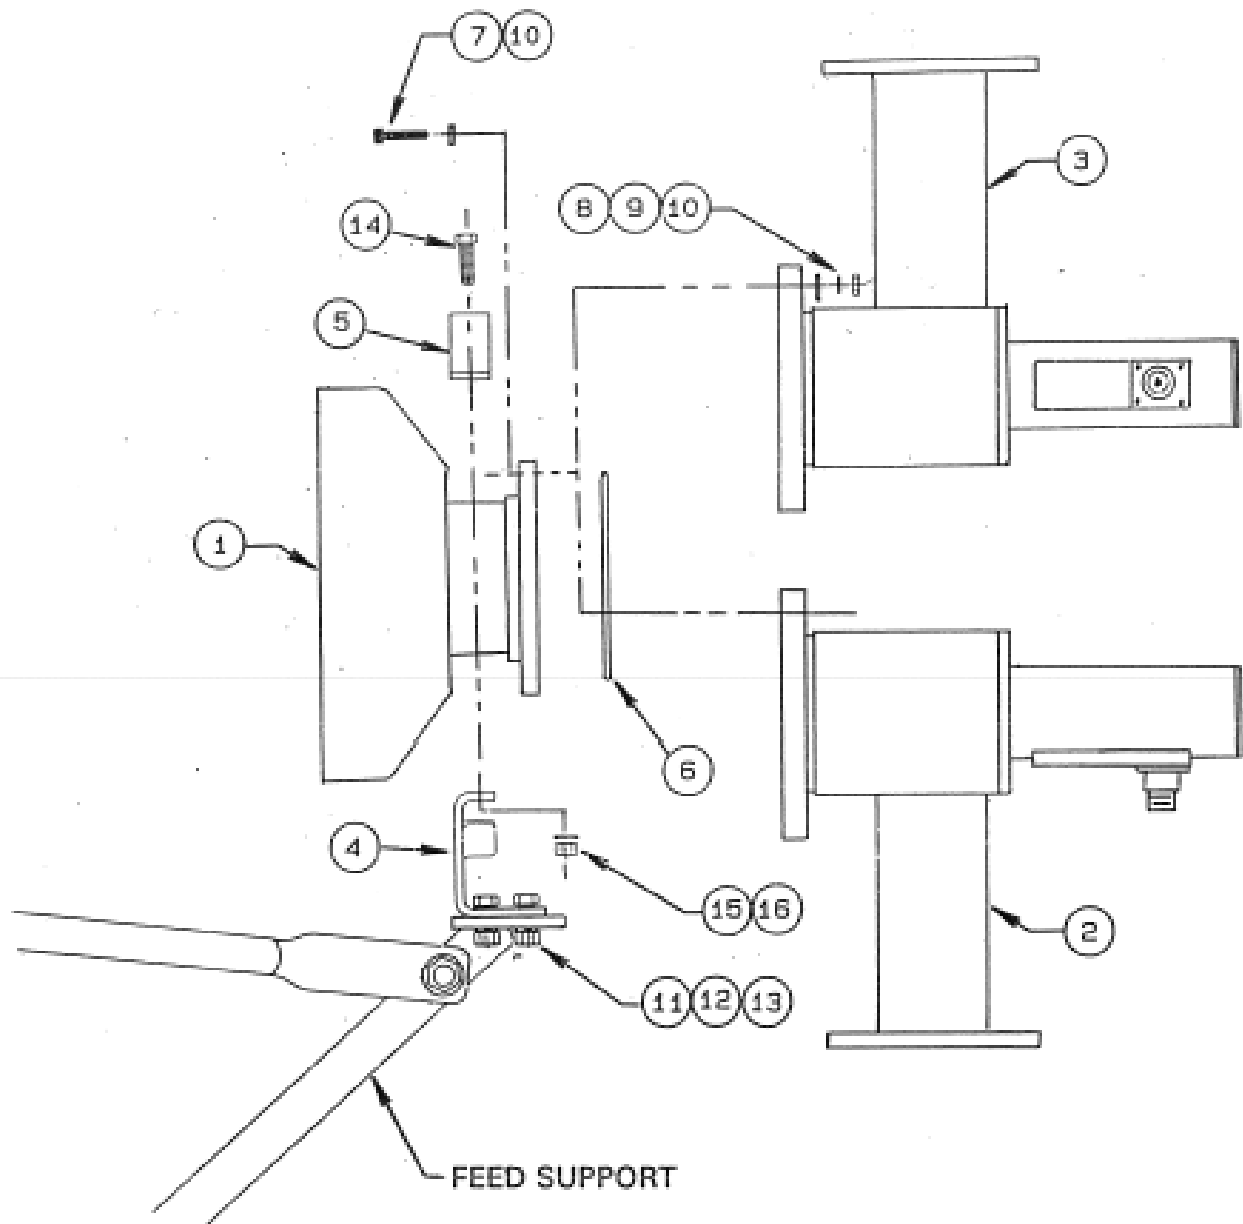

FIGURE 2.1-A
Step 1: Apply silicone grease to [2] o-rings (item# 7) and place [1] in the o-ring groove in the circular polarizer (item# 3). Attach the feed horn (item# 1) to the circular polarizer (end with o-ring) with [8] #10-24 x 1.25" screws, [16] flatwashers, [8] lockwashers, and [8] #10-24 hex nuts (item# 8,9,10,11). Tighten securely. **NOTE: The screws should be inserted from the feed horn side to prevent any interference.** See figure 2.1-B.
Step 4: Attach the remaining bottom feed mounting bracket to the circular polarizer bracket with [4] 3/8-16 x 1.00" bolts, [4] lockwashers, and [4] 3/8-16 hex nuts (item# 12,14,15). Do not tighten. **NOTE: Refer to figure 2.1-B to be sure that the brackets are oriented correctly.**